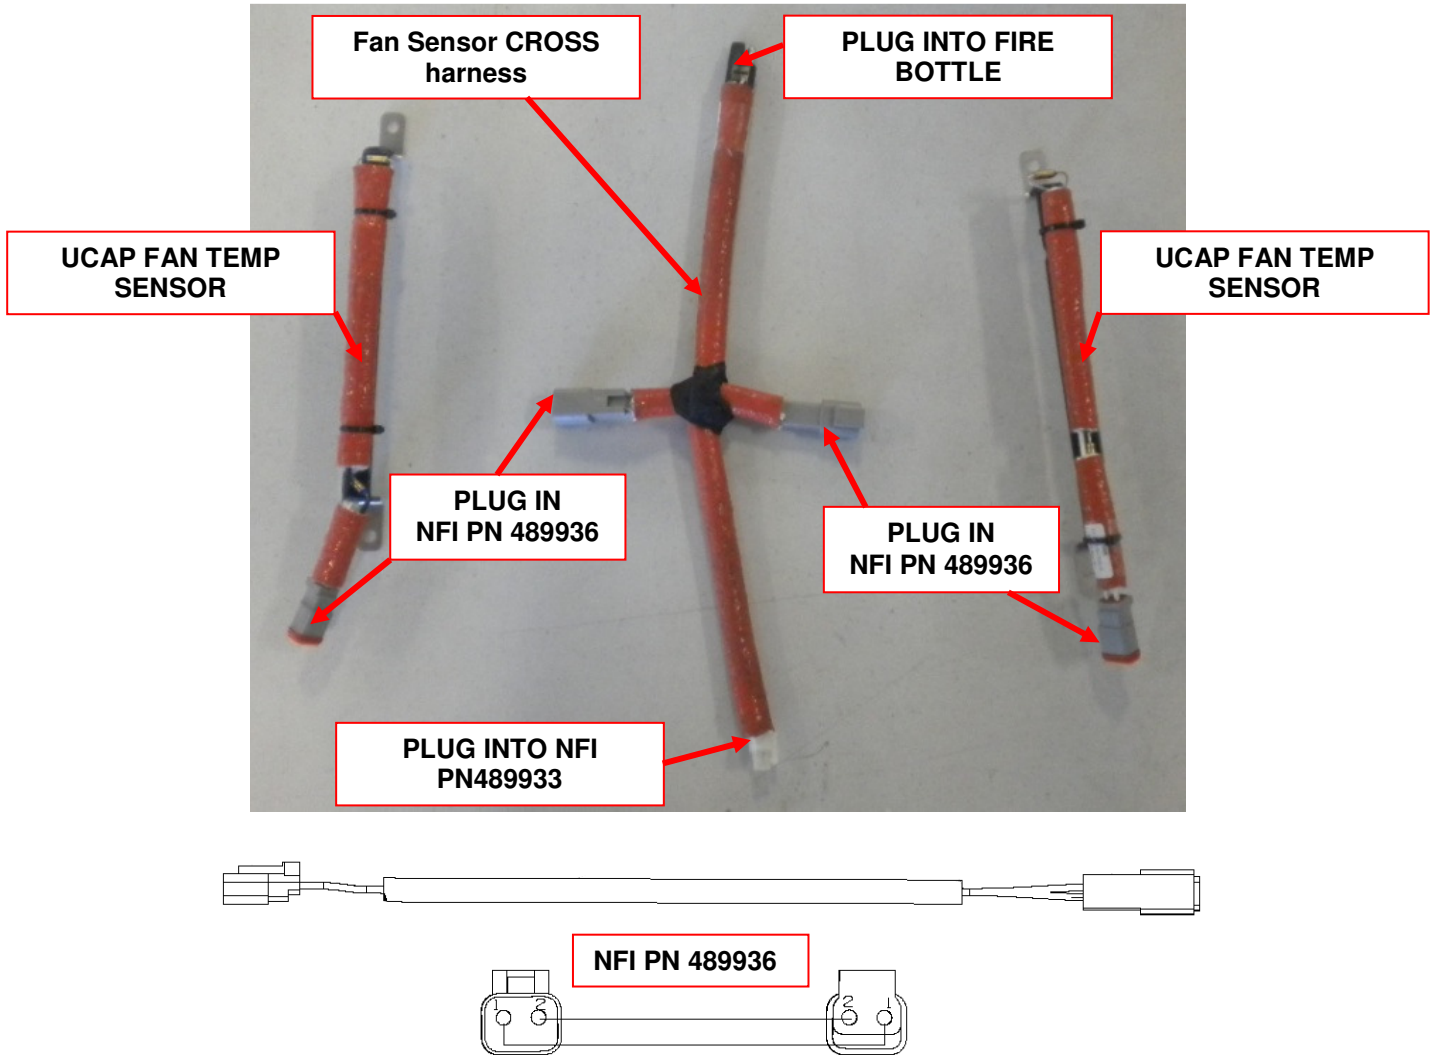

Fig 20 – Fan Harness Extension
- o. To allow the UCAP fans to be connected (2x per UCAP), plug the Fan Harness extension harnesses NFI PN 489936 on each side of the Fire Sensor CROSS harness. See Fig 20